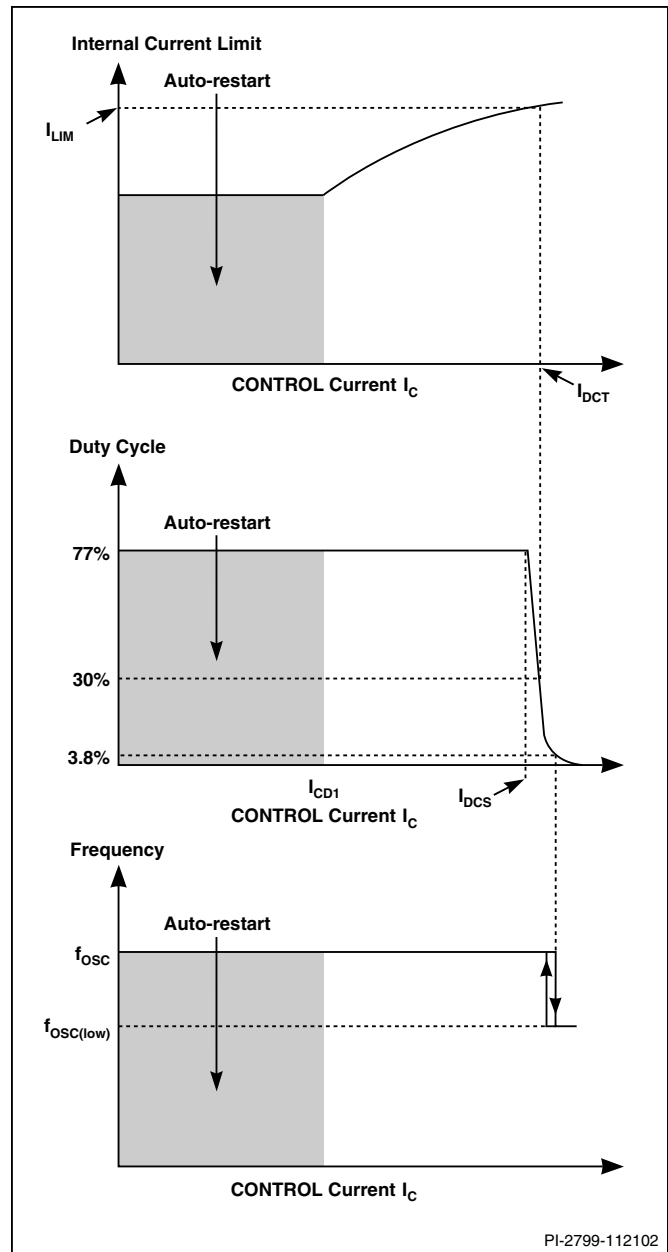
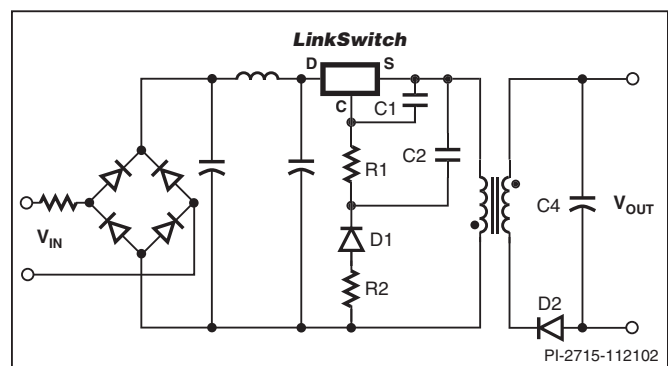
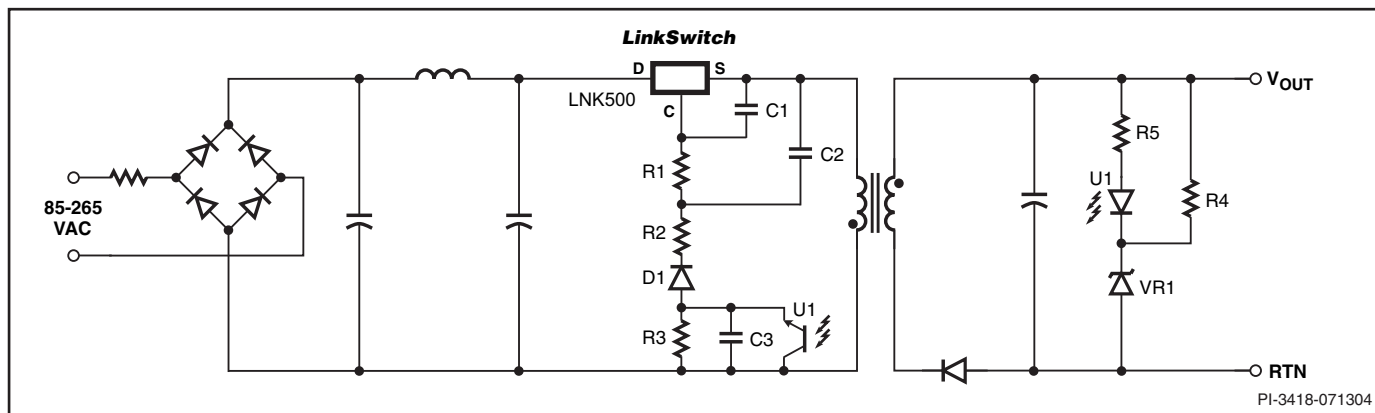

Figure 4. CONTROL Characteristics.
Figure 5. Power Supply Outline Schematic.
Figure 6. Power Supply Outline Schematic with Optocoupler Feedback.
The duty cycle, current limit and operating frequency relationships with CONTROL pin current are shown in Figure 4. Figure 5 shows a typical power supply outline schematic which is used below to describe the *LinkSwitch* operation.
During power up, as V_{IN} is first applied (Figure 5), the CONTROL pin capacitor C1 is charged through a switched high voltage current source connected internally between the DRAIN and CONTROL pins (see Figure 2). When the CONTROL pin voltage reaches approximately 5.6 V relative to the SOURCE pin, the high voltage current source is turned off, the internal control circuitry is activated and the high voltage internal MOSFET starts to switch. At this point, the charge stored on C1 is used to supply the internal consumption of the chip.
As the output voltage, and therefore the reflected voltage across the primary transformer winding ramp up, the feedback CONTROL current I_C increases. As shown in Figure 4, the internal current limit increases with I_C and reaches I_{LIM} when I_C is equal to I_{DCT} . The internal current limit vs. I_C characteristic is designed to provide an approximately constant power supply output current as the power supply output voltage rises.
When I_C exceeds I_{DCS} , typically 2 mA (Figure 4), the maximum duty cycle is reduced. At a value of I_C that depends on power supply input voltage, the duty cycle control limits *LinkSwitch* peak current below the internal current limit value. At this point the power supply transitions from CC to CV operation. With minimum input voltage in a typical universal input design, this transition occurs at approximately 30% duty cycle. Resistor R1 (Figure 5) is therefore initially selected to conduct a value of I_C approximately equal to I_{DCT} when V_{OUT} is at the desired value at the minimum power supply input voltage. The final choice of R1 is made when the rest of the circuit design is complete. When the duty cycle drops below approximately 4%, the frequency is reduced, which reduces energy consumption under light load conditions.
Figure 6 shows a typical power supply outline schematic using *LinkSwitch* with optocoupler feedback to improve output voltage regulation. On the primary side, the schematic differs
from Figure 5 by the addition of R3, C3 and optocoupler U1. R3 forms a potential divider with R1 to limit the U1 collector emitter voltage.
The feedback configuration in Figure 6 is simply a resistive divider made up of R1 and R3 with D1, R2, C1 and C2 rectifying, filtering and smoothing the primary winding voltage signal. The optocoupler therefore effectively adjusts the resistor divider ratio to control the DC voltage across R1 and therefore, the feedback current received by the *LinkSwitch* CONTROL pin.
When the power supply operates in the constant current (CC) region, for example when charging a battery, the output voltage is below the voltage feedback threshold defined by U1 and VR1 and the optocoupler is fully off. In this region, the circuit behaves exactly as previously described with reference to Figure 5 where the reflected voltage increases with increasing output voltage and the *LinkSwitch* internal current limit is adjusted to provide an approximate CC output characteristic. Note that for similar output characteristics in the CC region, the value of R1 in Figure 5 will be equal to the value of R1+R3 in Figure 6.
When the output reaches the voltage feedback threshold set by U1 and VR1, the optocoupler turns on. Any further increase in the power supply output voltage results in the U1 transistor current increasing, which increases the percentage of the reflected voltage appearing across R1. The resulting increase in the *LinkSwitch* CONTROL current reduces the duty cycle according to Figure 4 and therefore, maintains the output voltage regulation.
The extent to which R3 can be increased is limited by opto transistor voltage and dissipation ratings and should be fully tested before finalizing a design. The values of C2 and C3 are less important other than to make sure they are large enough to have very little influence on the impedance of the voltage division circuit set up by R1, R3 and U1 at the switching frequency. Normally, the values of C2 and C3 in Figure 6 are chosen equal to the value of C2 in Figure 5, though the voltage rating may be reduced depending on the relative values of R1 and R2 discussed above. See Applications section for typical values of components.
The output voltage load variation can be improved across the whole load range by adding an optocoupler and secondary reference (Figure 6). The secondary reference is designed to only provide feedback above the normal peak power point voltage to maintain the correct constant current characteristic.
The schematic shown in Figure 5 outlines the key components needed for a *LinkSwitch* supply.
Since the SOURCE pins in a *LinkSwitch* supply are switching nodes, the copper area connected to SOURCE together with C1, C2 and R1 (Figure 5) should be minimized, within the thermal constraints of the design, to reduce EMI coupling.